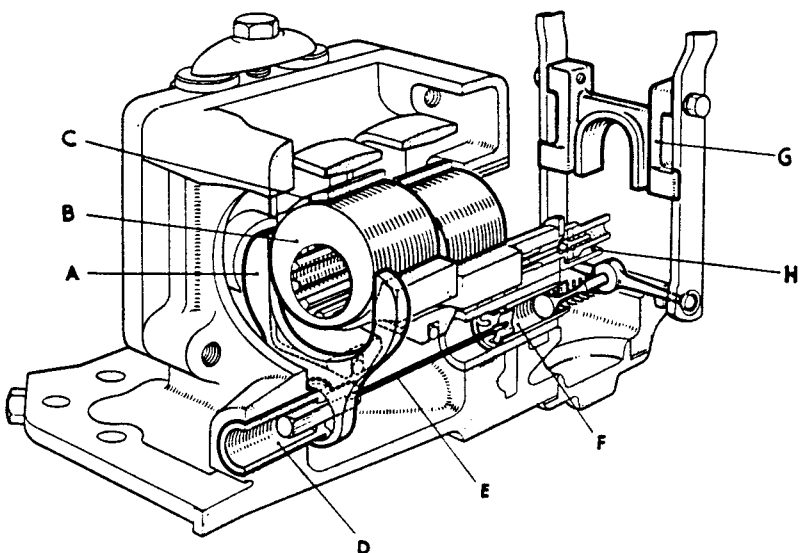

FIG. 28.
- (a) Disconnect one side of the stabilizer (G. Fig. 28) before separating the hand control fork from the control valve.
- (b) After removing the valve chamber assemblies, unscrew the bolt securing the oscillating fork bush (D. Fig. 28), remove tab washer and pull fork hard back against pump face before lifting out pistons, cams and cam blocks.
The oscillating mechanism operates as follows, refer to Fig. 28.
An improved safety valve was introduced and the safety valve (24) shown in Fig. 4., replaced by a check valve retainer. The shield, introduced at Tractor Serial No. 134001 and shown (H) in Fig. 28, was deleted.